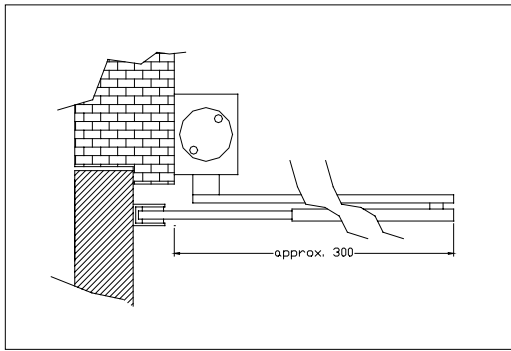

fig. 1 - DIN left
# Fixing in figure 1
- With the aid of the template mark out the fixing positions. Align the hinge point of the template with the centre line of the hinge on the door. (This applies to both left and right-hand doors.) There are two holes to be drilled/tapped on the transom for the arm shoe and four holes to be drilled/tapped on the door leaf for the closer body. If the template is not used refer to fixing dimensions (see figure 1 and 2 above.)
- Secure closer body with screws provided, making sure that the spindle is positioned towards the hinge side. (See figure 1 and 2 above.) The power size (closing force) of the TS4000 is adjusted by turning the Allen key screw situated above and to the right of the clear glass indicator tube containing a small ball bearing. As the screw is turned the ball bearing will gradually move to show its power size. If it doesn't appear to be moving give the indicator a gentle tap with your finger which will release it. (Please be aware that the power sizes indicated on the closer are EN ratings 1 – 6.)
- With the aid of the template mark out the fixing positions. Align the hinge point of the template with the centre line of the hinge on the door. (This applies to both left and right-hand doors.) There are two holes to be drilled/tapped on the door leaf for the arm shoe and three holes to be drilled/tapped on the transom for the closer body. If the template is not used refer to fixing dimensions (see figure 1 and 2 above.)
- Secure closer body with screws provided, making sure that the spindle is positioned towards the hinge side. (See figure 1 and 2 above.) The power size (closing force) of the TS4000 is adjusted by turning the Allen key screw situated above and to the right of the clear glass indicator tube containing a small ball bearing. As the screw is turned the ball bearing will gradually move to show the power size. If it doesn't appear to be moving give the indicator tube a gentle tap with your finger which will then release it. (Please be aware that the power sizes indicated on the closer are EN ratings 1 – 6.)
- Mark the fixing positions in accordance with fixing dimensions (see figure 1 and 2 above.) There are three holes to be drilled/tapped on the door leaf for the closer body and four holes to be drilled/tapped on the underside of the transom for the parallel arm bracket.
- Separate the primary and secondary arms. This can be done using a screwdriver as a lever. The arm sections will snap together and apart. Secure the primary arm to the spindle using M6 allen bolt supplied. Ensure splines are interlocked. Locate arm at approx. 10° towards the rear of the closer. (See figure 3 and 4.) Turn closing speed valve, located on the front of the body of the closer fully clockwise. This will decrease the closing speed to almost zero. **Do not overtighten.** Rotate primary arm to approximately 90°. (See figure 5 and 6.) Secure closer body to door leaf with fixings provided, making sure that the spindle is positioned away from the hinge side. (See figure 1 and 2 above.) The power size (closing force) of the TS2000 is not adjustable in this configuration and the unit must be mounted using the centre fixing holes. Secure primary and secondary arms together (simply click in place.)